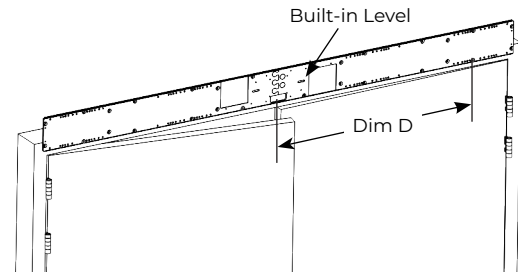

Figure 5
4. Interlock right backplate (3 "fingers") from Box 2 with left backplate. (Figure 5)
5. Use level on right backplate to ensure proper alignment. (Figure 5)
6. Using backplate as template, mark conduit slot and Dim D mounting hole. (Figure 5)